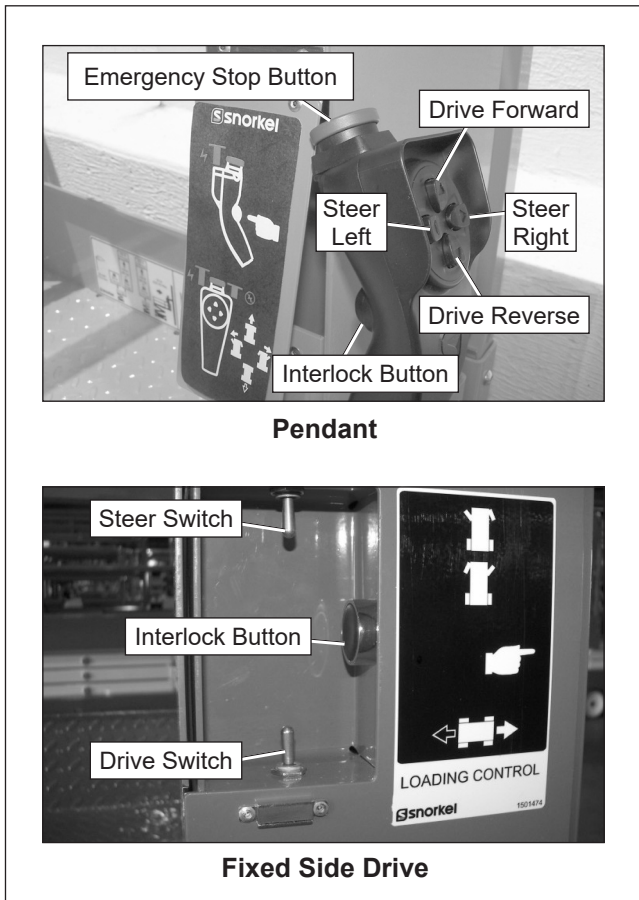

Figure 10.6 – Loading Controls
The machine may be equipped with a loading control station beneath the upper control box on the platform guardrail. Drive functions may be operated from this location when loading the machine. The loading controls may be a fixed side drive or a corded pendant (refer to Figure 10.6).
2. Raise the door on the right side of the platform to access the loading controls (refer to Figure 10.6).
4. The drive switches (refer to Figure 10.6) are momentary contact. These switches control the two front wheels to drive the aerial platform.
5. The steer switches (refer to Figure 10.6) are momentary contact. These switches control the two front wheels to steer the aerial platform.